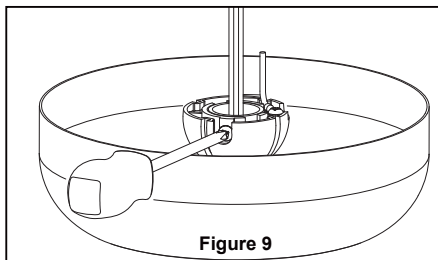

Figure 9
9. Reinstall the hanger ball on the downrod as follows. Route the black and white wires through the hanger ball. Position the pin through the two holes in the downrod and align the hanger ball so the pin is captured in the groove in the top of the hanger ball. Pull the hanger ball up tight against the pin. Securely tighten the set screw in the hanger ball. A loose set screw could create fan wobble. (Figure 9)